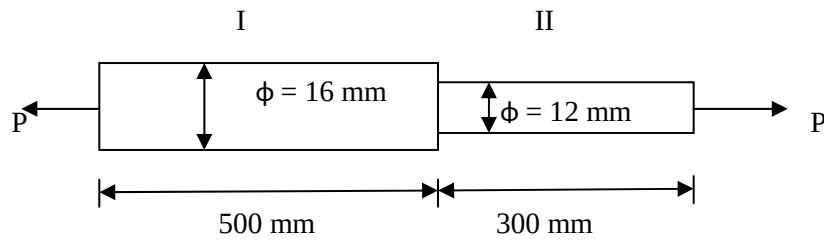

Fig. No. 1 {Que : 2 (b)}
- (b) A mild steel specimen as shown in figure no.1 is subjected to a tensile force P, due to which the I portion increases by 15mm. Find the value of the force P and increase in the II portion of the specimen. **07**